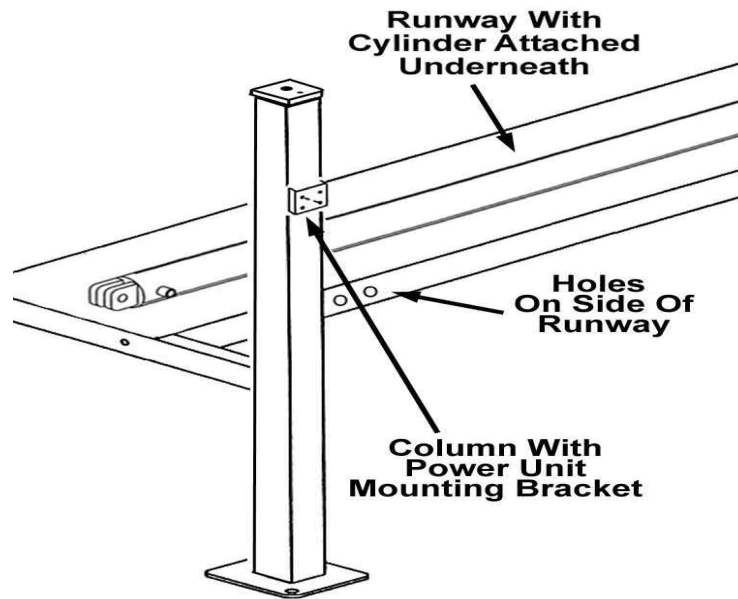

Fig. 8
2. Position the holes on the side of the runway near the power unit location. (See Fig. 8)